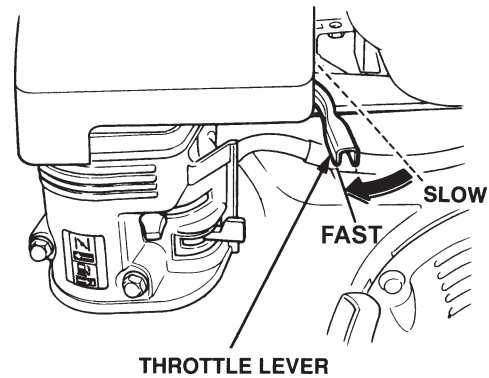

Figure 14. Throttle Lever
3. Move the throttle lever (Figure 14) away from the slow position, about 1/3 of the way toward the fast position.